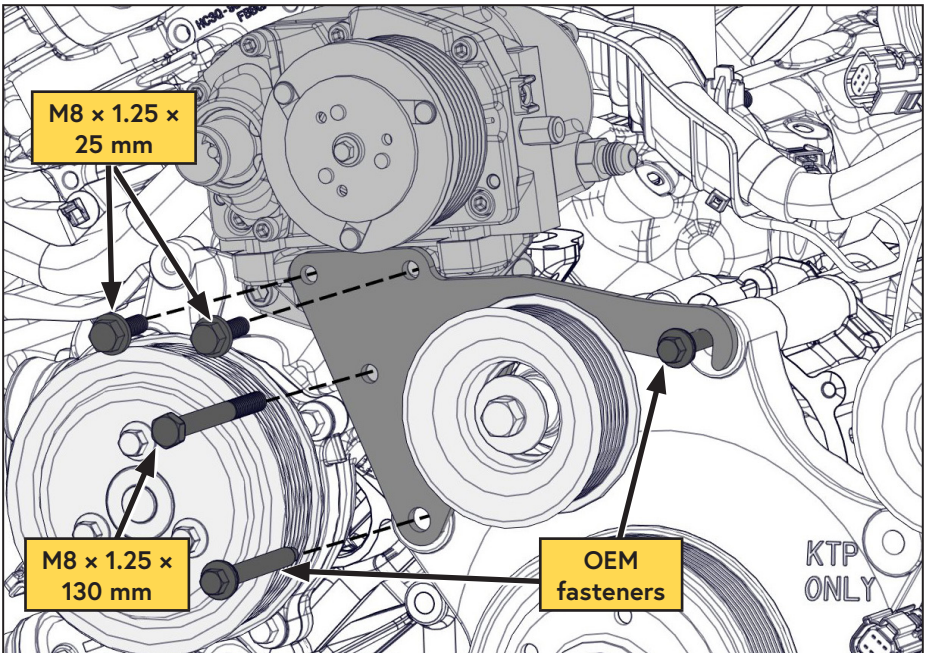

Figure 9 — Install the brace bracket
- Install the compressor brace bracket and torque to specification. Note the location of the OEM and VMAC supplied fasteners (Figure 9).